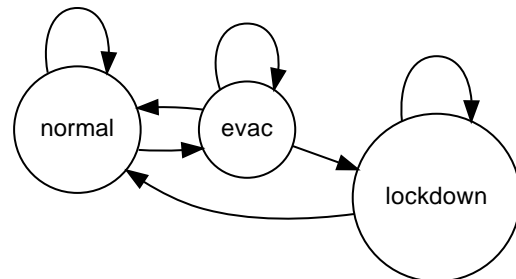

Figure 3: State transitions for the access mode.
1. State transitions: The state transitions for “access = normal” remain, but a possible transition from “evac” to “lockdown” has to be added (so any state is reachable from “evac”); from state “lockdown”, “normal” and “lockdown” are reachable. See Figure 3.